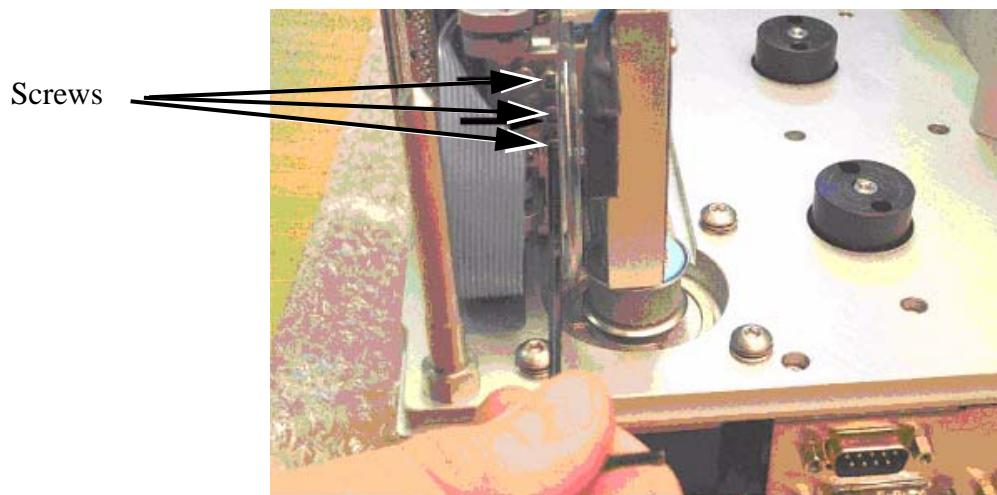

Figure 5-70: Screws Removal
- 5 Remove the three screws shown in Figure 5-70.